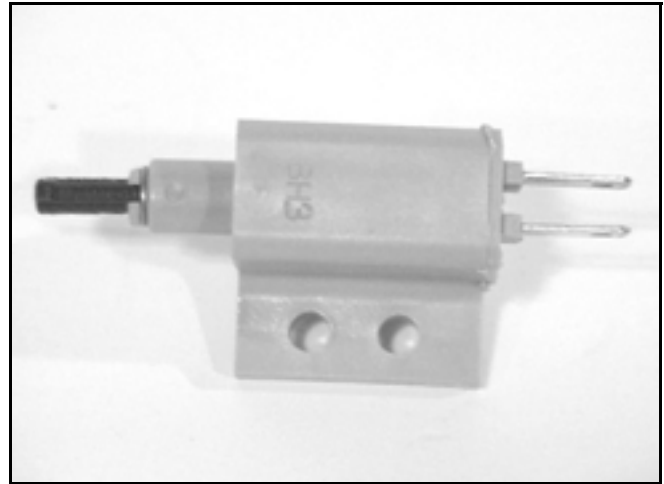

Figure 246
3. Depress the plunger on the switch and check the continuity across the terminals, there should be NO continuity (Figure 246).